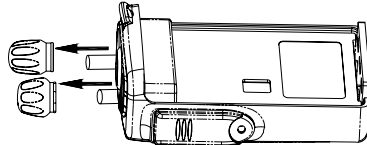

Fig. 2
4. Remove the knob. (See fig.2)